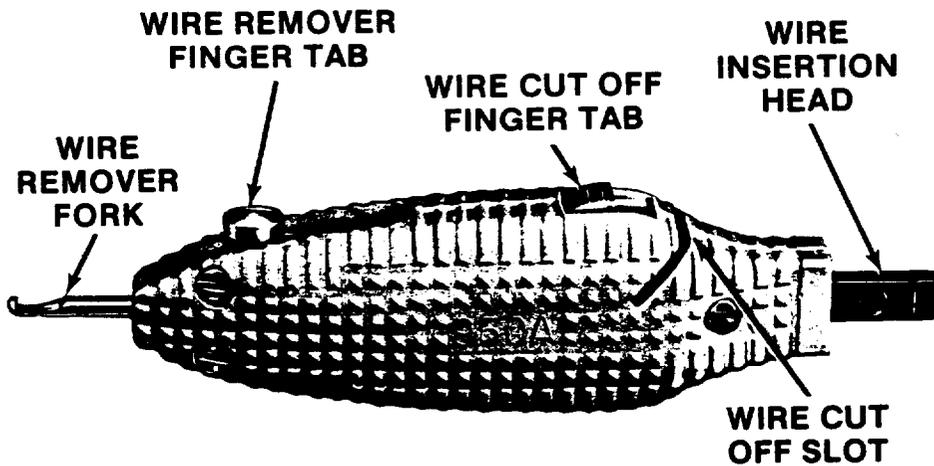

Figure 6. 950A Cutoff/Insertion/Removal Tool (DA)
2.11 The 950-type tools are a wire cut-off, insertion, and removal tools. These tools can be used to cut DT22 and DT24 [22 and 24 gauge (0.6 and 0.5 mm)] cross-connect wires. The 950A tool (Figure 6) is used with 24-gauge (0.6 mm) jumper wire, and the 950B tool is used with 22-gauge (0.5 mm) jumper wire. All 950-type tools can be equipped with new "multipurpose" wire insertion bits (950C-1, Comcode 105611537). The 950A and the 950B tools are Discontinued Availability (DA), and are replaced by the 950C/C1 tools.